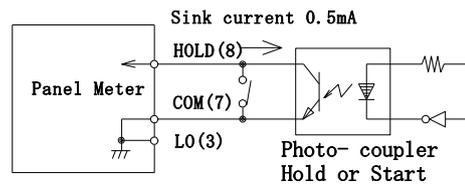

Fig. 3
The minimum time required for one measurement is about 400 ms. In addition, as the input (LO) and COMMON (7) terminals are connected and not DC-isolated, use a mechanical contact signal such as a relay or switch for control as much as possible. When performing control by TTL. Or transistor, and such an external circuit in Fig.3. (This circuit is absolutely necessary for isolation when the input is floated.)